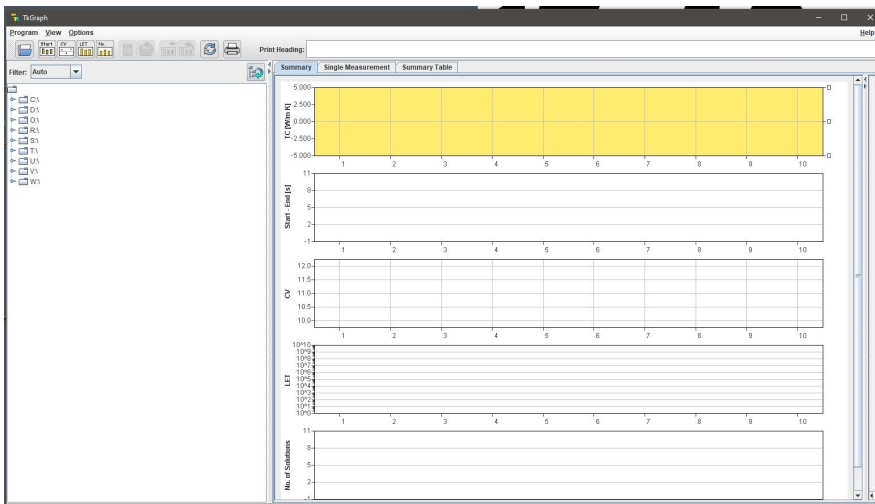

Figure 6. **TKGraph** main window.
- **TK Graph**: Graphs the TK04 data format, directly (Figure 6). **REVIEW**